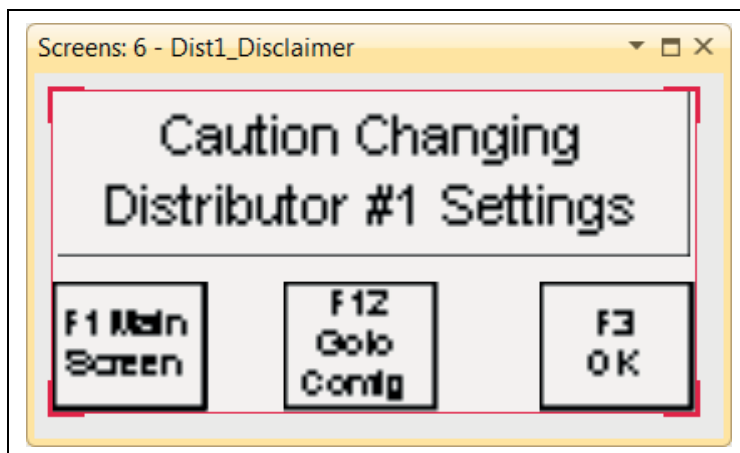

Figure 5R
4. After pressing the **F4** key, the user will be taken to the **user screen**. Enter “2” and then press “Enter” . The next screen will be the **password screen**: Enter “1500” for the password and press “Enter” . Upon pressing enter the next screen will be the disclaimer screen as in Figure 5R. Press **F3** (OK).